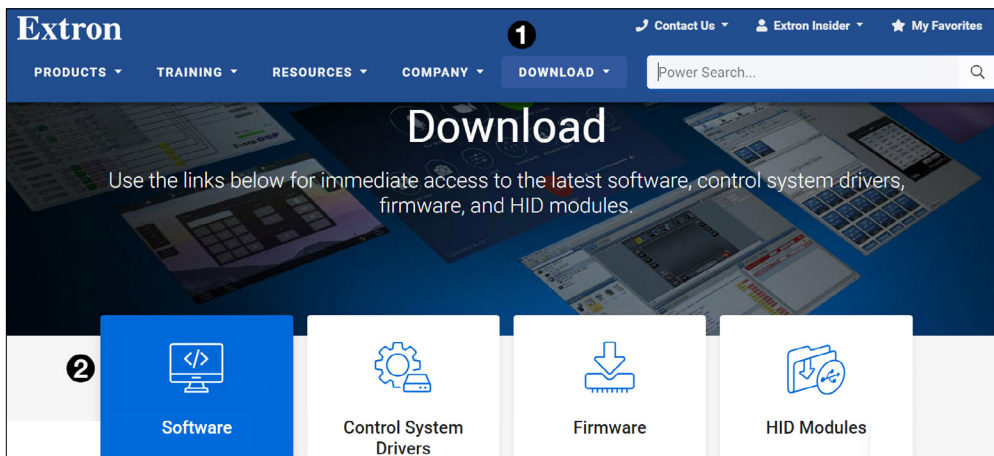

Figure 35. Software Downloads from the Extron Website
1. Select the **DOWNLOAD** tab (see figure 35, ❶).
2. Click the Software (❷) option at the bottom of the page.